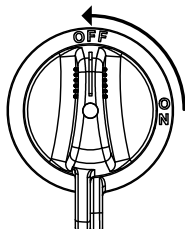

Figure 49. Battery Switch (OFF)
5. Place the **Battery switch** (Figure 49) in the **OFF** position.